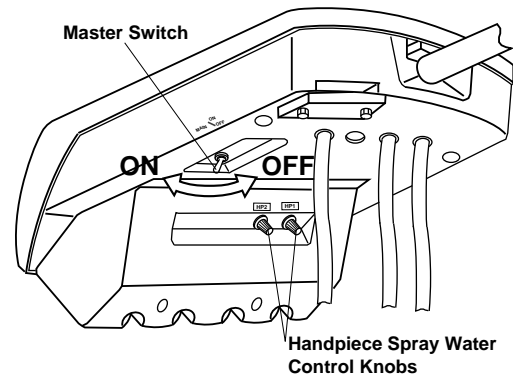
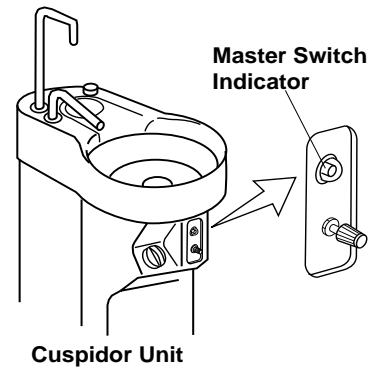
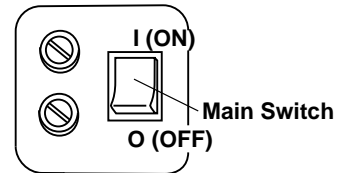

Fig. 3-1 Master Switch and Handpiece Spray Water Control Knobs
Fig. 3-2 Master Switch Indicator
Fig.4-1 Main Switch
3-1. MASTER SWITCH (Fig.3-1 and Fig.3-2)
(1) Handpiece Spray Water Flow Control Knobs (Fig.3-1)
4-1. MAIN SWITCH (Fig.3-1 & Fig.4-1)
(2) Mouth Rinsing Position Adjustment (Fig.4-1)